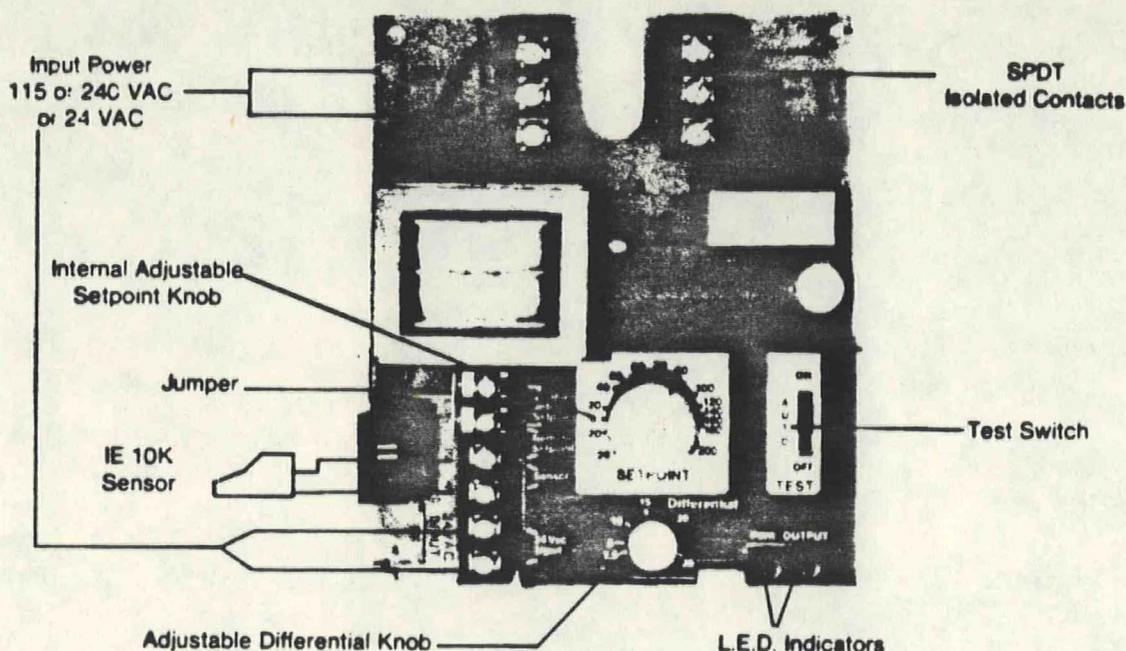

Fig. 1 SP-30
To access this knob, disconnect power to the control and remove entire cover (see Fig. 1).
- Turn on AC power at circuit breaker panel. Verify that "PWR" indicator is on (see Fig. 1).